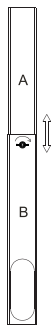

Fig 2
2. As shown in Fig 2, the assembled unit allows the user to adjust Panel A up or down to suit the height of the window